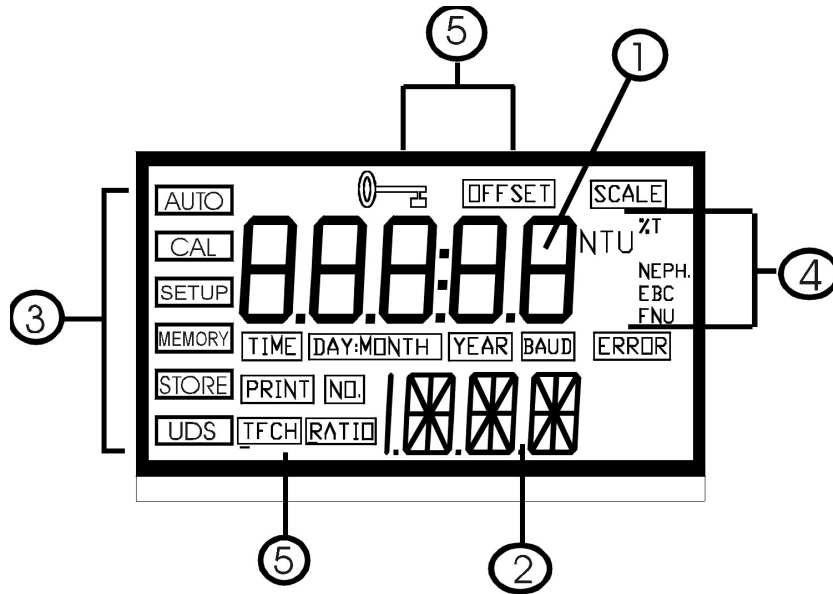

Figure 1 – Display used in the instrument.
Figure 1 illustrates all the items that can appear on the display. The upper row of the display (1) is used for reporting the turbidity levels and to provide user guidance in the customer setting routine. The lower row of the display (2) is used to communicate error messages and user guidance. The display has several status indicators (3) that distinguish the operation of the instrument. In addition there are several indicators that display the different scales (4) that the instrument will report. Other indicators (5) provide guidance when the setup and calibration routines are being used.